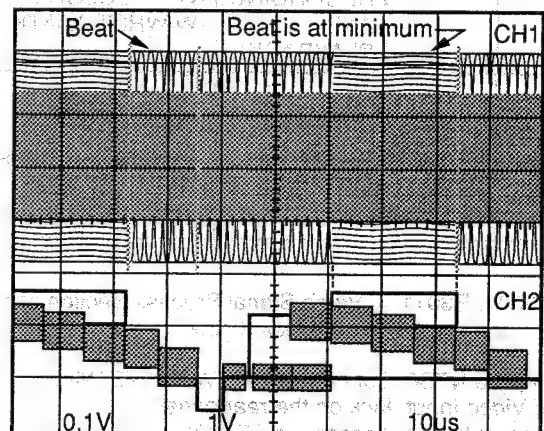

Fig. E6-3
2. Adjust R3011(DEVIATION) so that the beat is at minimum as shown in Fig. E6-3.